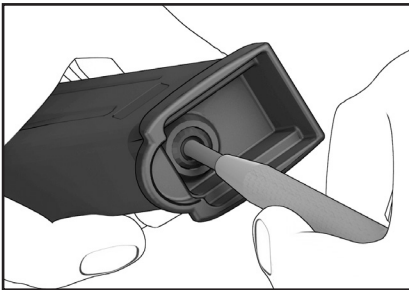

Figure 36
1. Using a blunt, pointed instrument, depress the locking insert detent located in the floor plate and hold it there (see Figure 36).